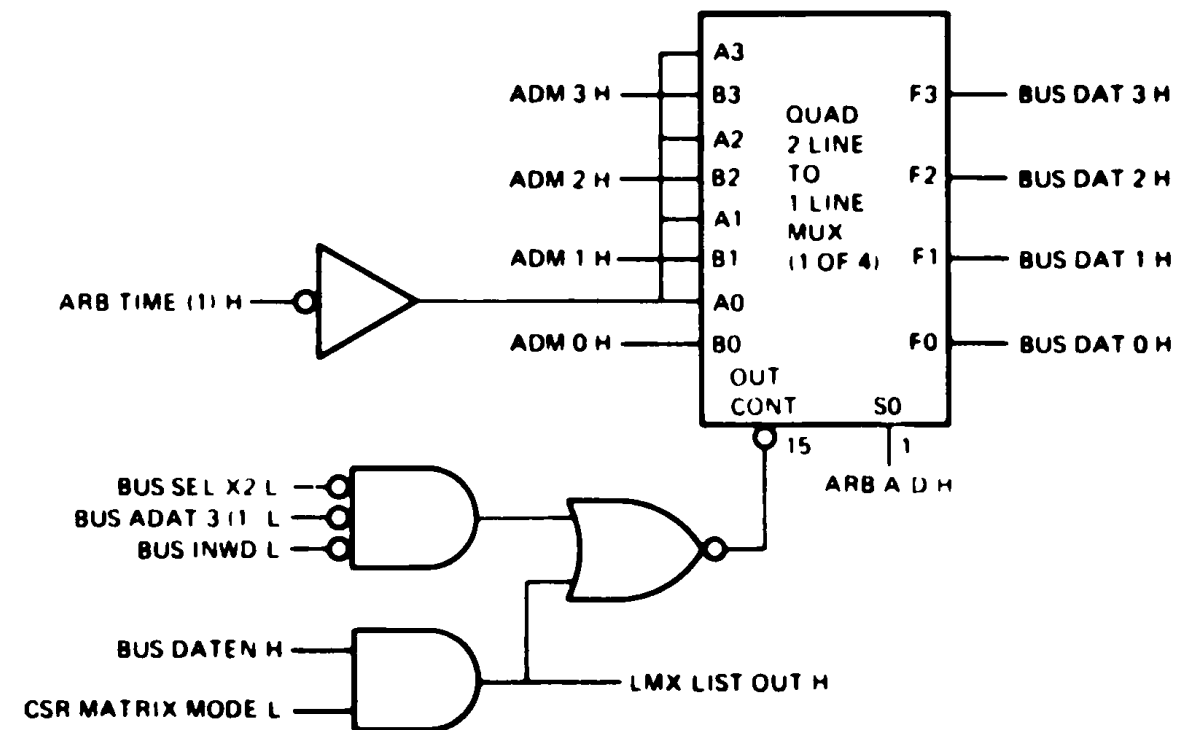

Figure 2-24 List Mode Multiplexer
The list mode multiplexer uses four quad, 2-line to-1-line multiplexers (See Figure 2-24). This multiplexer has one input as ADM 0-14 from the address maker on the control module and CSR LIST BIT 15 H (not shown) from the command status register. ARB TIME (1) H goes to the other inputs. The list mode multiplexer provides three types of data: